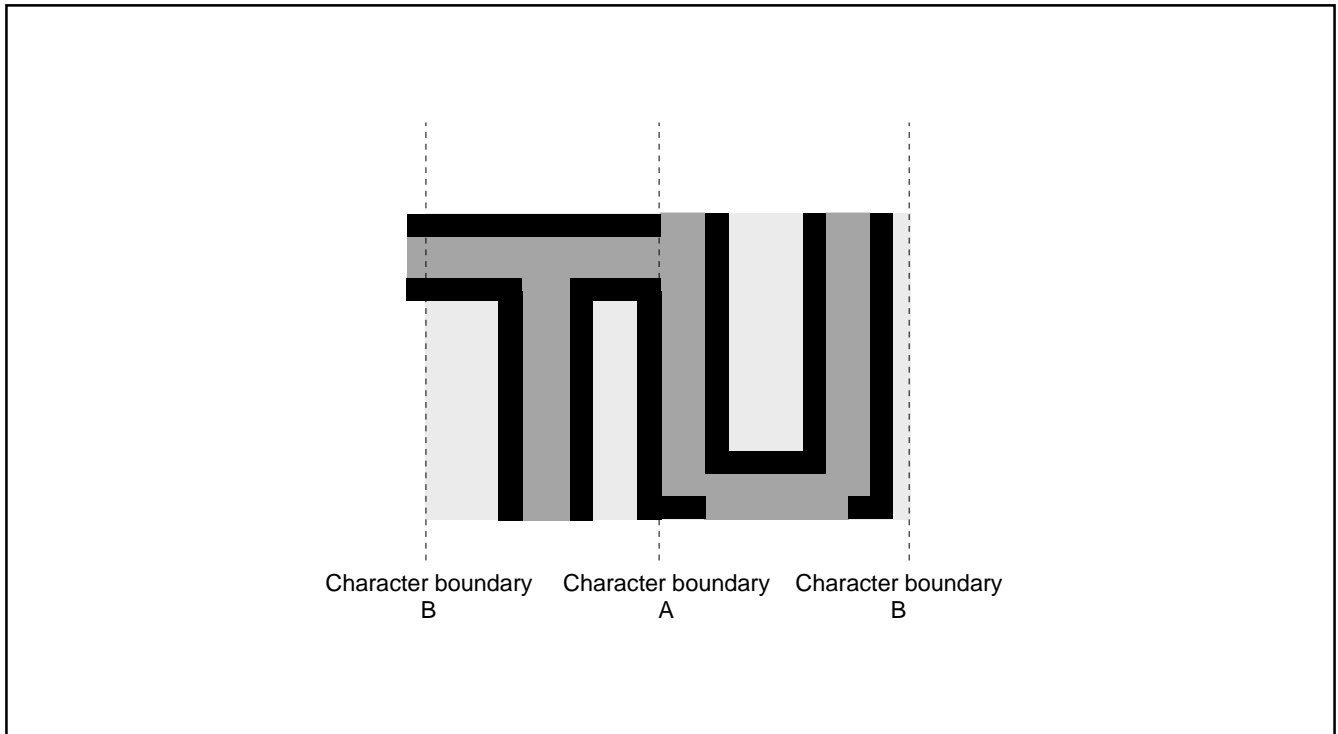

Fig. 8.10.23 Border Priority
- 2 :** When the border dot overlaps on the next character font, the character font has priority (refer to Figure 8.10.23 A).
When the border dot overlaps the next character back ground, the border has priority (refer to Figure 8.10.23 B).
- 3 :** The border in vertical out of the character area is not displayed (refer to Figure 8.10.23).